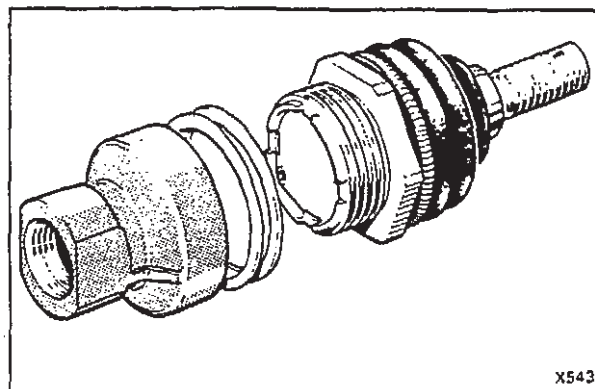

Fig. H3-5 Damper ball pin assembly
5. Unscrew the ball pin assembly from its housing, taking care not to damage the protective rubber boot. Collect the pre-load adjustment shims (see fig. H3-5).